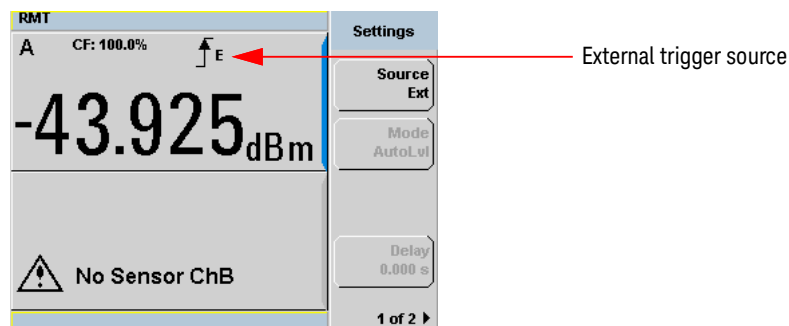
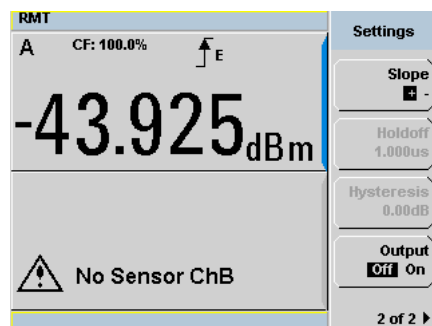

Figure 3-21 Trigger setting menu 1 of 2
Figure 3-22 Trigger setting menu 2 of 2
- 7 Press **Settings** to configure the remaining trigger parameters. The trigger **Settings** menu consists of two pages. Figure 3-21 shows page 1 and Figure 3-22 shows page 2.
- 7 Press **Settings** to configure the remaining trigger parameters. The trigger Settings menu consists of two pages. Figure 3-21 shows page 1 and Figure 3-22 shows page 2.